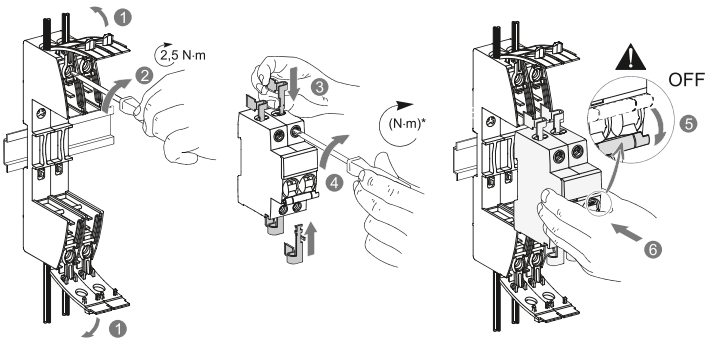

Рисунок 5 – Монтаж автоматического выключателя / Figure 5 – Installation of the circuit-breaker
Wiring of power supply and load side conductors and circuit breaker is carried out according to the algorithm shown in figure 5.
- after installing the module on the T-shaped mounting rail TH 35 according to IEC 60715 or on the mounting plate, open the protective covers, item 1 in figure 5 (open the protective covers until they are fixed);
- then connect the power supply side and load side conductors to the module terminals and tighten the screw terminal with a torque of 2.5 N·m, item 2 in figure 5;
- then connect the lamellae of the blade type to the circuit-breaker outputs, item 3 in figure 5. Next, tighten the screw terminals with the specified torque, item 4 in figure 5;
- then it is necessary to bring the circuit-breaker to the "Off" position, item 5 in figure 5;
- then it is necessary to mount the circuit-breaker in the module, item 6 in figure 5.